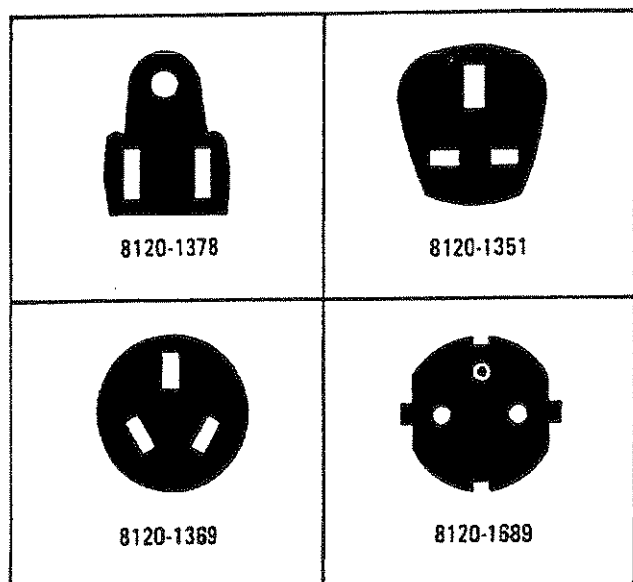

Figure 4. Power Cable HP Part Numbers Versus Mains Plugs Available
21. In accordance with international safety standards, this instrument is equipped with a three-wire power cable. When connected to an appropriate ac power receptacle, this cable grounds the instrument cabinet. The type of power cable plug shipped with each instrument depends on the country of destination. Refer to Figure 4 for the part numbers of the power cable plugs available.